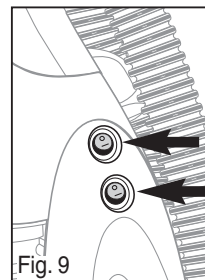

Fig. 9
- 2) Press top and bottom switches ON (–) and lower handle to vacuum carpet (Fig. 9).